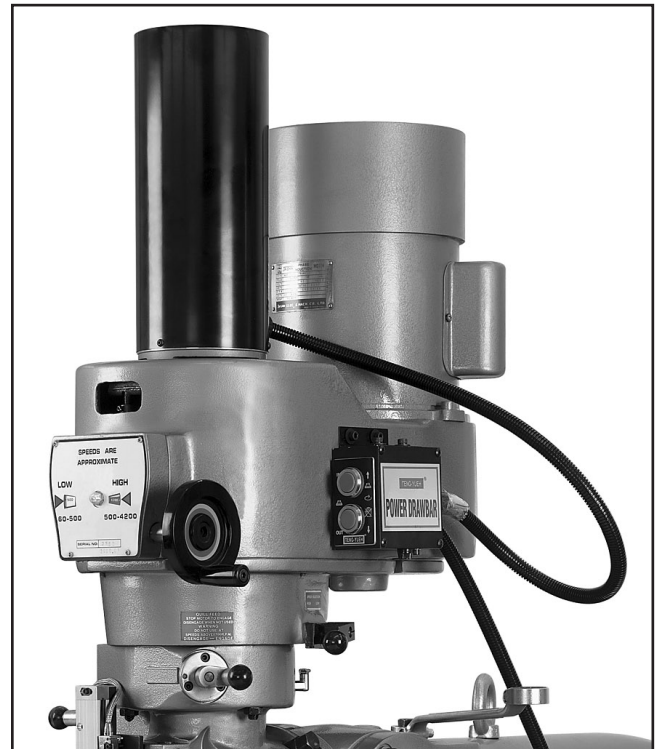

Figure 2. Example of the Model H8368 power drawbar mounted on a mill.
7. Mount the switch in a convenient position on your mill (see **Figure 2** on **Page 1**).